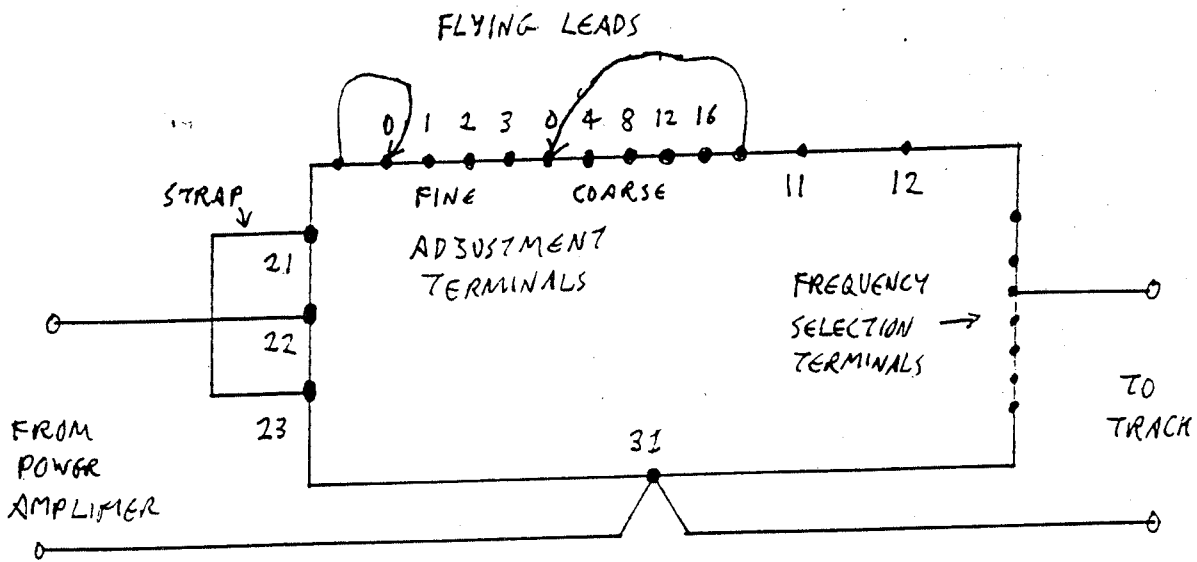

FIG. 1. ADJUSTABLE TRACK FILTER ARRANGEMENT AT FEED END
- 2). COMMISSIONING THE FEED END (for all configurations and lengths) see fig.1: